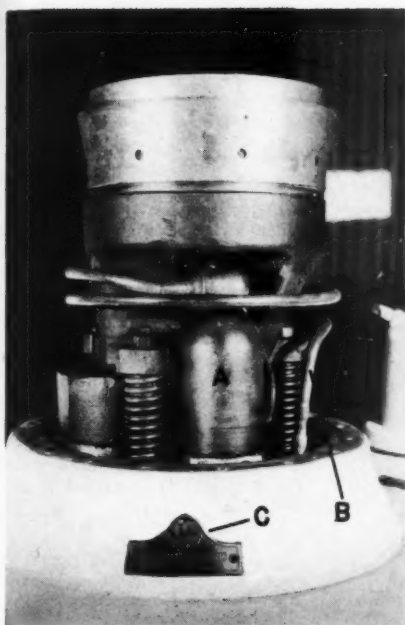

FIG 3.—TWO VIEWS OF THE DR-2 UNIT WITH THE DOME REMOVED.
Two views of the DR compressor unit, in the process of dismantling, are shown in Fig. 3. On the left is the unit as it will appear when the dome has been removed, exposing the working parts. While the one shown is of the bolted type, the same mechanism will be found in the welded type. The unit floats on three springs, which absorb most of the vibration. So that as little vibration as possible will be carried through the suction line, which is the only other metal-to-metal contact between the unit and outer casing, the tubing is given two turns around the unit, forming a flexible connection. Where the suction line enters the base of the dome, it is brazed into a screw connector, with a nut on the under side of the base. Thus, when the tubing is cut outside of the unit and the nut removed from the connector, the suction line may be pulled through the base.
The three motor leads are provided with metal clips, which are soldered to metal glass leads passing through the dome base. These should be unsoldered with a soldering iron. When the three nuts above the spring mountings are removed, the compressing unit may be lifted out of the dome base, and when turned upside down will appear as in the right-hand side of Fig. 3.
oil pump. The piston of this pump is fastened to the main piston, as shown at (D). The movement of the cylinder block also controls the suction and discharge ports of this pump. These ports are shown at (B). All the oil is drawn through a fine mesh screen, which may be seen at (D) in Fig. 3. The pressure created by the oil pump also operates the unloader valve, but before going